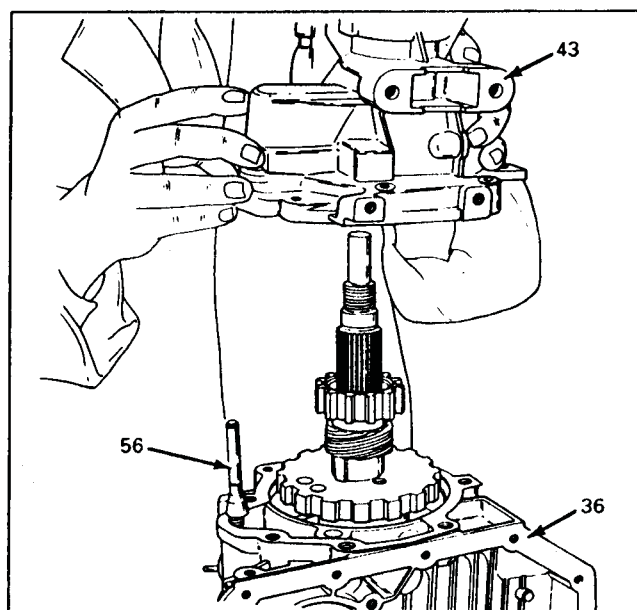

Figure 117
6. Install extension housing assembly to the main case (See Figure 117).